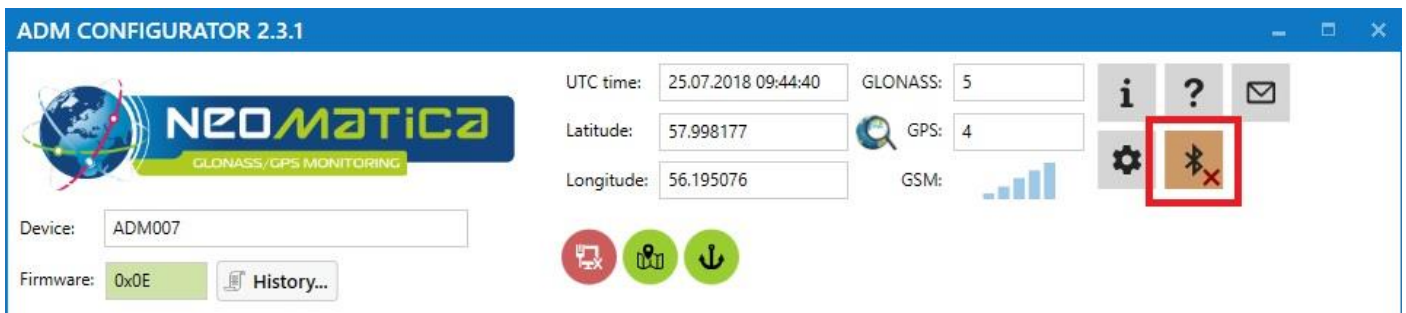

Figure 6 - ADM Configurator: the "disable device" button
- 7) after the device is set or, if connection of other tracker is required, click "disable device" in the upper right corner of the ADMConfigurator program. The configurator will go into a standby mode, as shown in Figure 6.